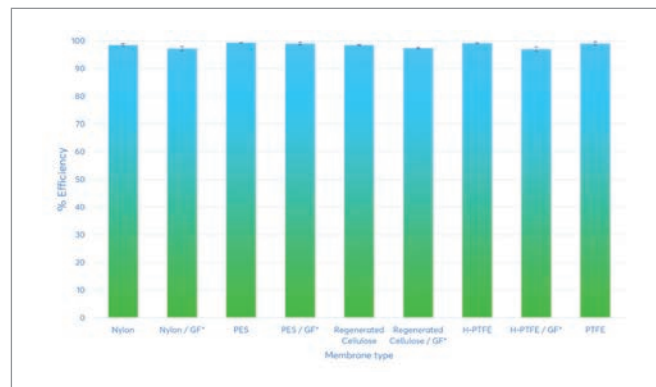

Figure 1: Extraction efficiencies of J.T.Baker® Syringe filters according to membrane type. \* Refers to filters with built-in glass fiber pre-filters
by spectrophotometry (UV, 272 nm) (Figure 1). Triplicate analyses were performed for multiple batches. Samples were prepared in water for hydrophilic membranes and in methanol for hydrophobic membranes.
Figure 1: Different measurement modes of the AF30/x reflection unit. On the left side external reflection (materials:  $\text{CaF}_2$ ,  $\text{BaF}_2$ ), on the right side internal reflection (materials: Ge, Si).
With the BRUKER A530/x reflection unit, prepared for electrochemical cells, both may be studied (2). For an external IR reflection-absorbance spectroscopy (IRRAS) set-up, a thin layer configuration is used, which allows for the study of the electrolyte and the electrode surface. Alternatively, an internal reflection ATR set-up can be used to analyze the electrode surface directly with limited influence of the electrolyte (see figure 1).